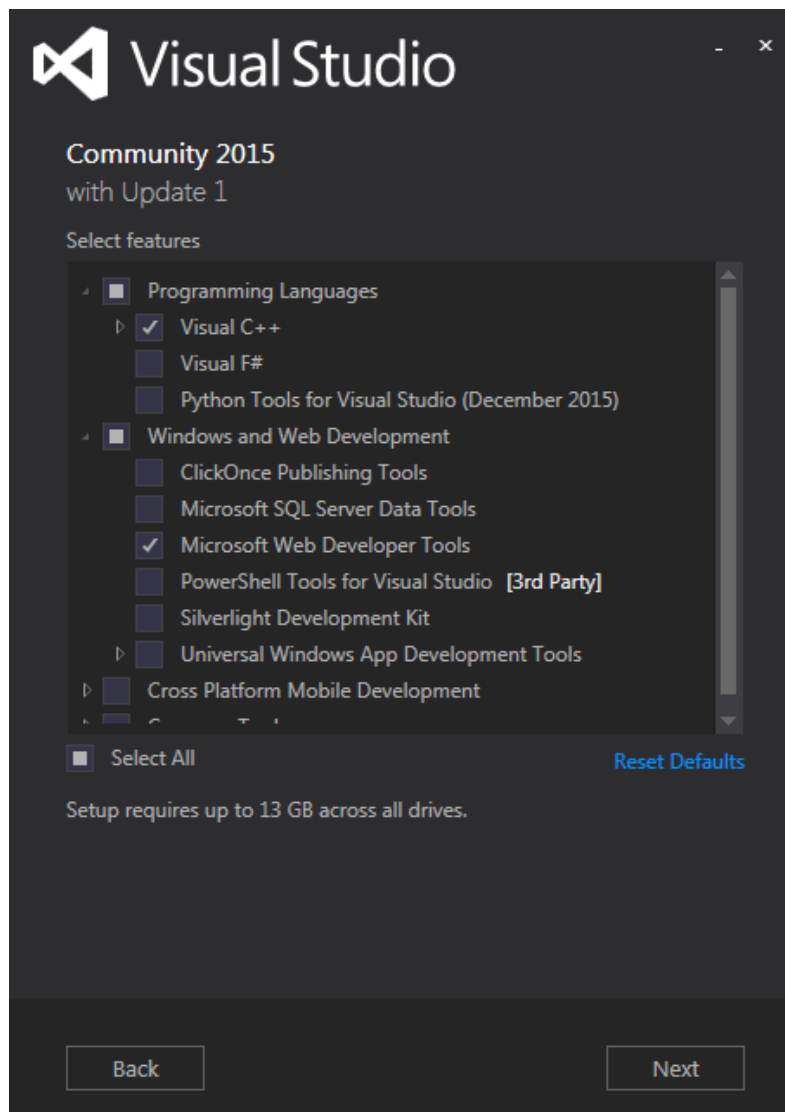

Figure 33. Visual Studio Installation
1. Run the installer to install Visual Studio. On the Customization page, select *Custom*. On the Select Features page, ensure the Visual C++ option under Programming Languages is checked, as shown in Figure 33.